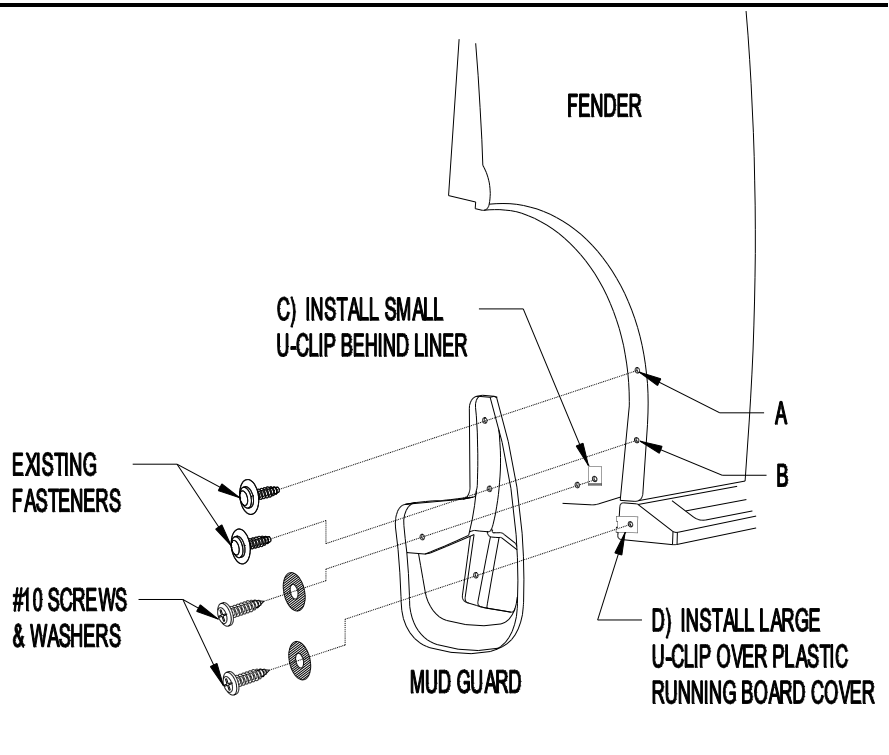

Figure 1
1. Remove existing fasteners from locations A and B (Figure 1).
4. Remove mud guard and install large u-clip at location D over running board lip and align the drilled and u-clip holes (Figure 1).
7. Install #10 screw and washer at location C, thru mud guard, fender liner and into a **small u-clip** behind liner. NOTE: The small u-clip is used like a nut and DOES NOT clip over fender liner (Figure 1 and 2).